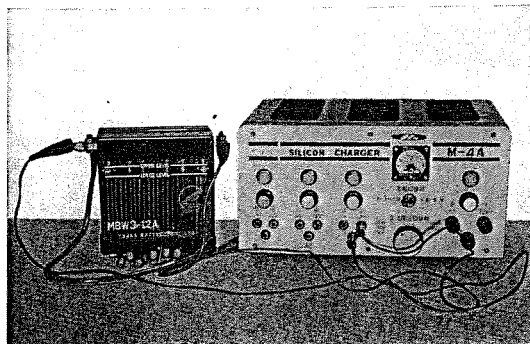

Fig. 5.65 Supplementary charge of battery
- (4) The exterior portion of a battery, especially around terminals or electrode connectors, should always be kept clean. Due to dust and residue, electrical current leaks and over-discharge may result. (Refer to Fig. 5.65 thru 5.68)